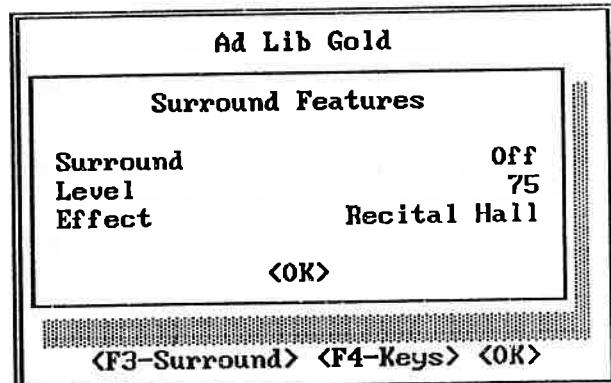

Figure 3: Mixer Panel Surround Features window
3. Press the **F3** key when in the Mixer Panel main window to open the Surround Features control window (see Figure 3).